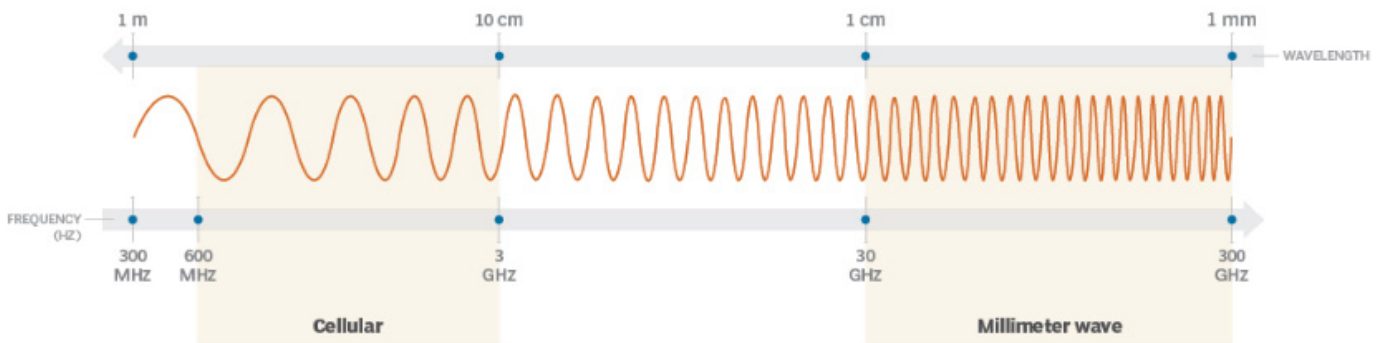

Figure 1. Frequency spectrum and wavelength of mmWave versus cellular.
Figure 1. Built-in function modes enable IP protection. Some vendors allow users to create a user-defined mode to customize what content to send to a specific manufacturing partner.
Millimeter wave (mmWave), or millimeter band, is an electromagnetic (EM) frequency range below infrared (IR). The frequency spectrum of mmWave is applied for high-speed telecommunications, such as 5G and potentially 6G network deployment.^{1,2} Referring to **Figure 1**, the mmWave wavelength ranges from 10mm at 30GHz to 1mm at 300GHz.